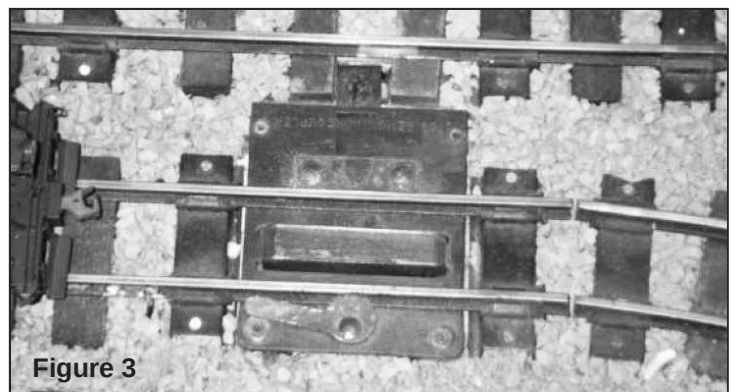

Figure 3
Step 1: To install the modified uncoupler on your layout, cut a square hole for the upside-down coil to fit into. Measure from the track centerline on your layout 1-1/4" and 2-3/8" and make a 1-1/8" square hole between these two marks. Refer to figure 3 below for the final view.